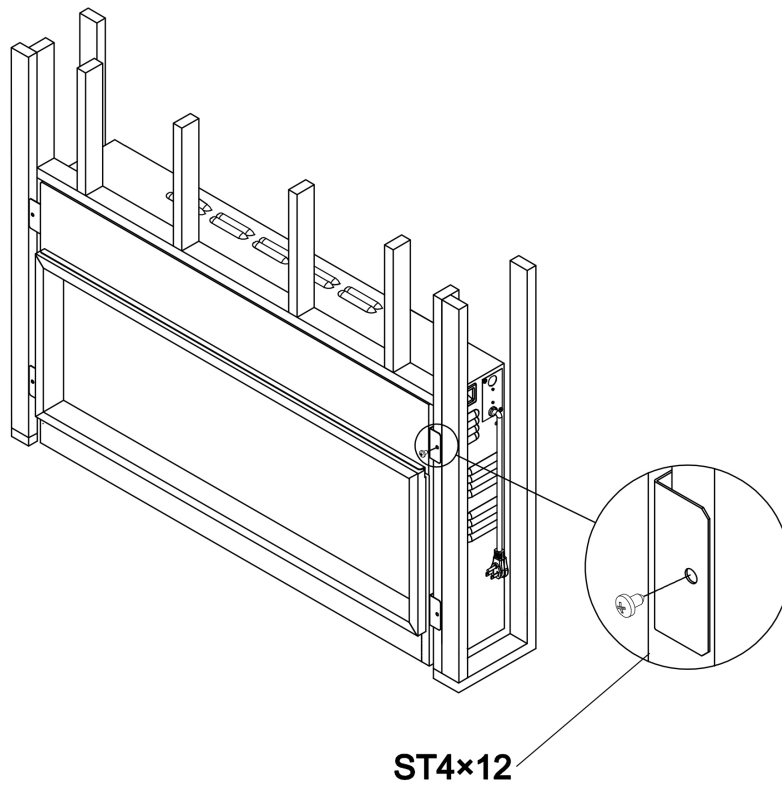

Figure 3
- Use 4 ST4*12 screws to fix the fireplace on the frame as shown in figure 3.